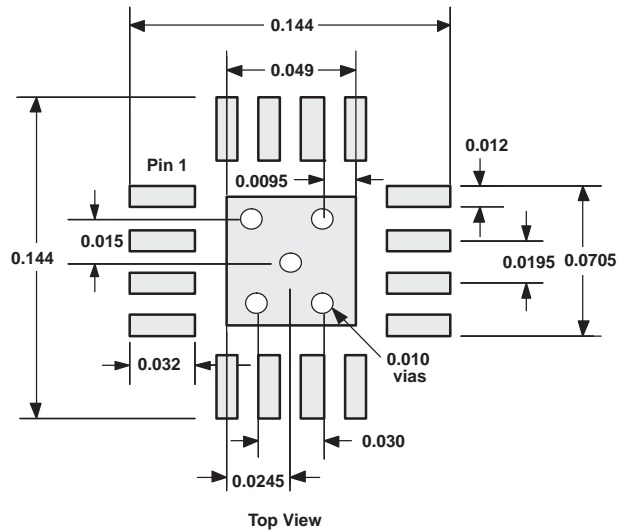

Figure 39. QFN Etch and Via Pattern
9. The THS4520 recommended PCB footprint is shown in Figure 39.